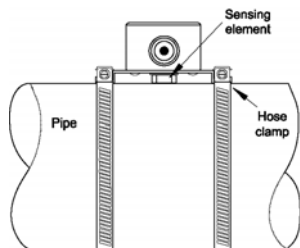

Figure 6. Installing the TE 704 B, C, or D Sensor
2. Apply a thin layer of A-505 thermal compound to the sensing element. See Figure 6.